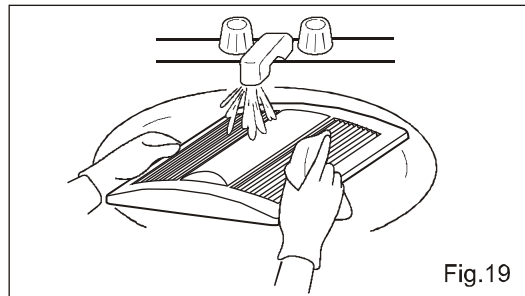

Fig.19
2. Wash and clean grille. (Use non-abrasive kitchen detergent, wipe dry with new cloth.) (Fig.19)